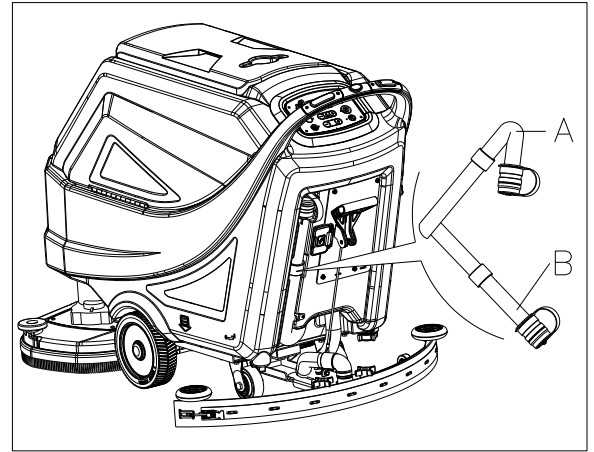

Figure 17
5. Empty the recovery water tank with the hose (A, Figure 17). Then, rinse the tank (B, Figure 16) with clean water.
When draining the wastewater, the vacuum tube for waste must be folded (A, Figure 17) and lowered to a lower position (B, Figure 17), and then open the lid of the vacuum tube for waste to drain the water. Do not make the outlet of the vacuum tube for waste face upward to drain the water vertically. This is to avoid wastewater spilling onto the operator.